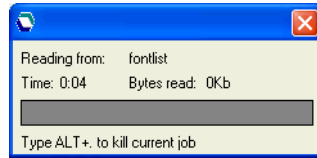

Figure 3.4 Read Dial
- At least one progress dial window also appears and shows what is happening. For example, the Read Dial shows how much of the job the RIP has read and disappears when the RIP has processed the complete job. With a small job like this proof and a fast computer, the Read Dial may not appear; Figure 3.4 shows the dial. Other dials can appear, depending on the size of the job and the settings in your copy of the RIP.